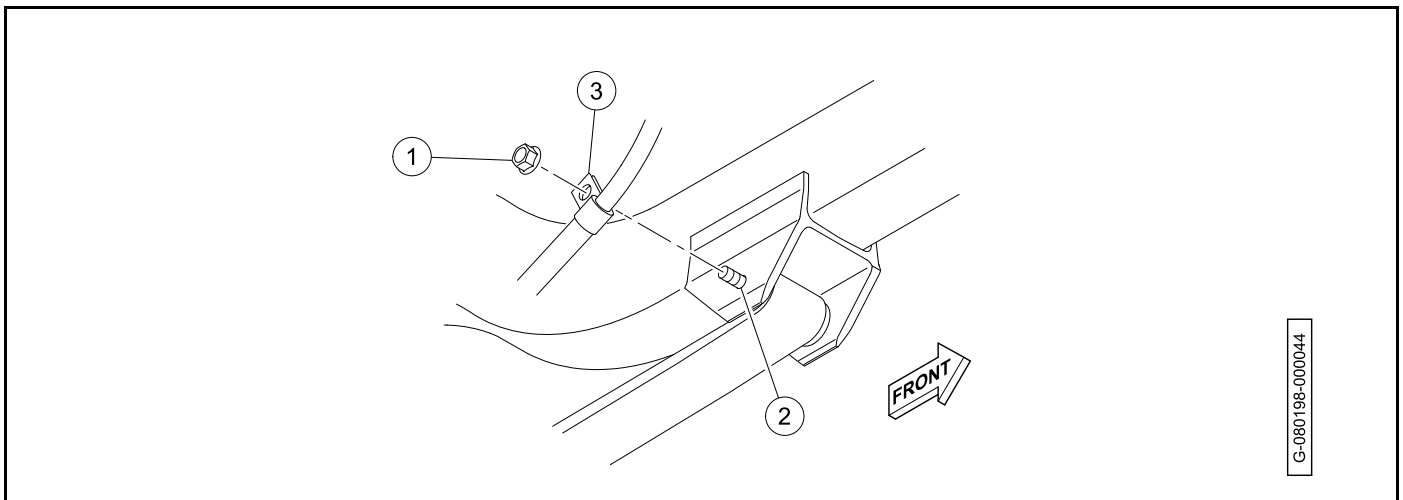

Figure 6-27
- Remove the brake cables (2) from the equalizer bracket.
- Remove the nut (1) (**Figure 6-27**). Do not remove bolt (2).